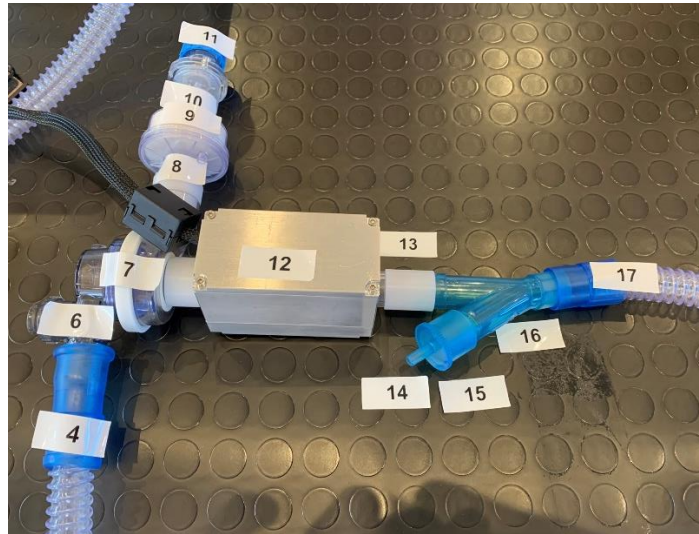

Figure 4.30. Connecting a standard disposable breathing hose (17) to the ABU Y-connector ensemble (14-15-16).
- 23- Connect a second standard, disposable breathing hose (17) to the ABU Y-connector ensemble (14-15-16) as shown in Figure 4.30.